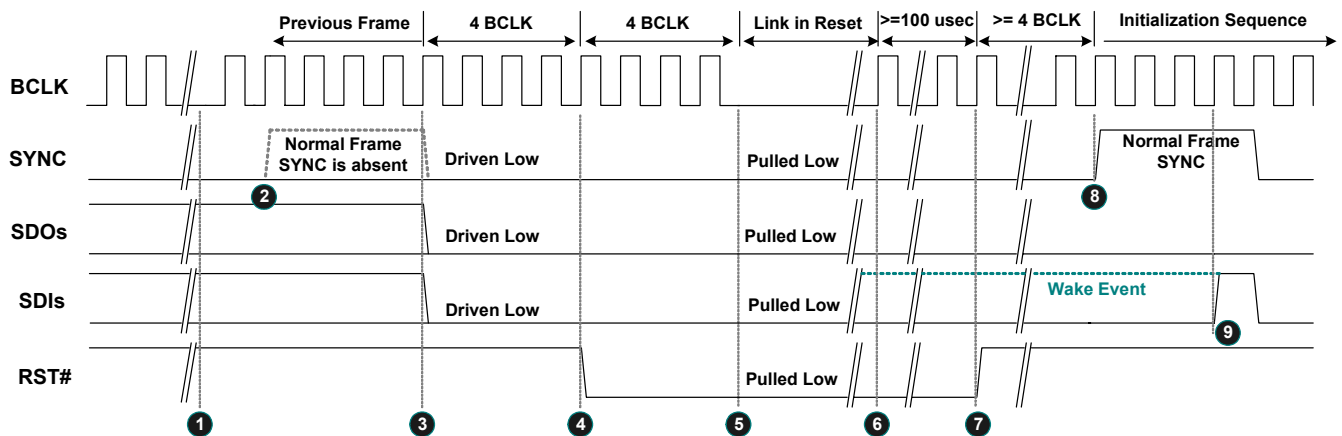

Figure 13. Link Reset Timing
3. Software initiates power management sequences. Figure 13, shows the 'Link Reset' timing including the 'Enter' sequence (❶~❸) and 'Exit' sequence (❹~❺)